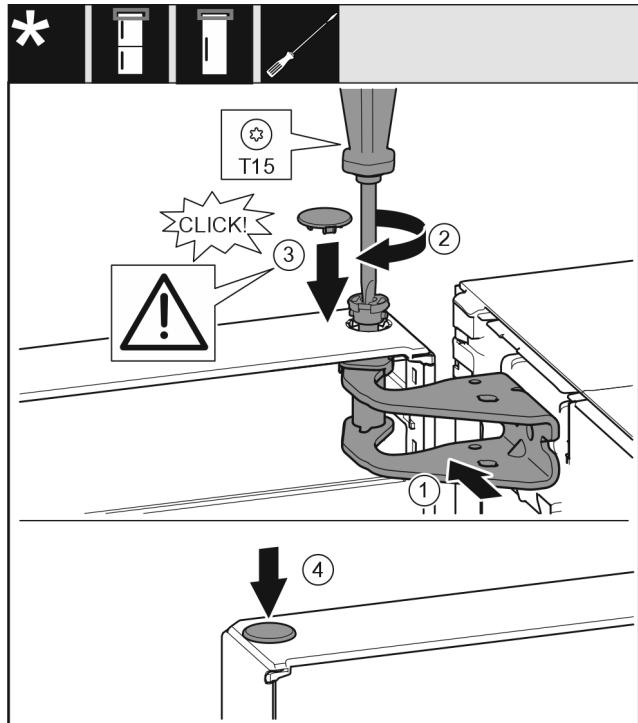

Fig. 19
- ▶ Align the top door with the opening in the swap bearing block Fig. 19 (1).
- ▶ Insert the bolt Fig. 19 (2) and use screwdriver to tighten it.
- ▶ Insert the cover Fig. 19 (3).
- ▶ Check that the cover Fig. 19 (3) is resting on the door.
- ▶ Insert the cover Fig. 19 (4).